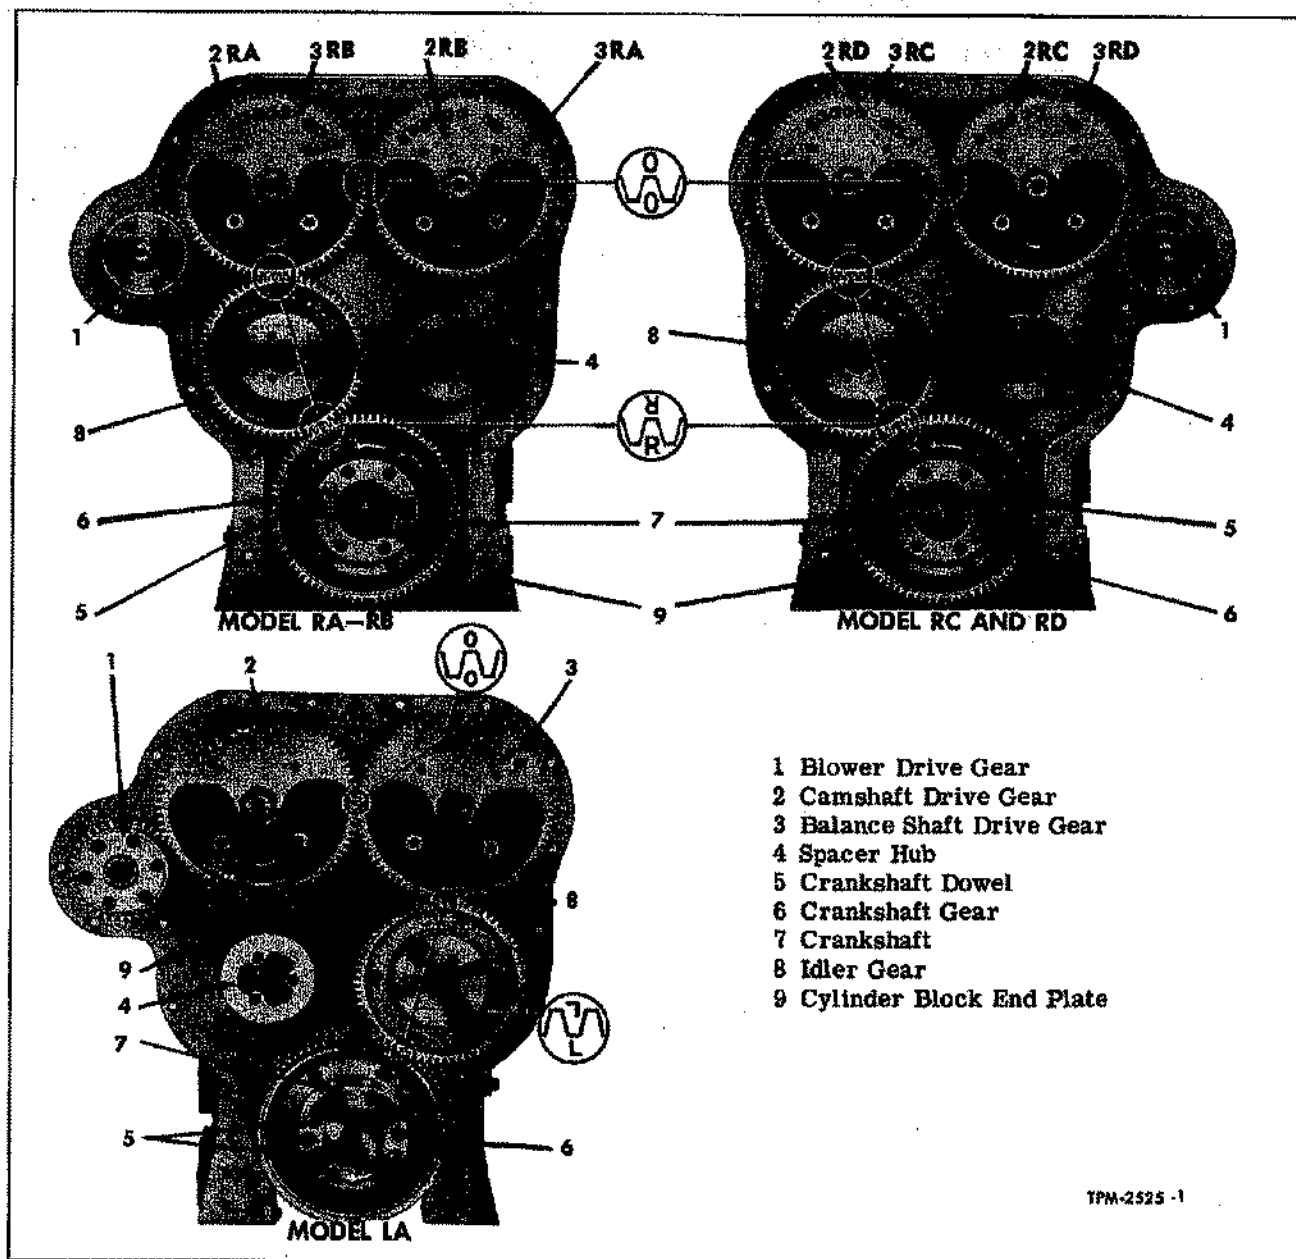

Figure 52—Gear Train and Timing Marks
A train of five helical gears, illustrated in figure 52, is located at rear of engine, and is completely enclosed between cylinder block end plate and flywheel housing or gear train cover.
7. Position crankshaft gear and either balancer shaft gear or camshaft gear so marks (fig. 52) align with those on idler gear; then roll idler gear into position. Rotate gear hub so that hollow dowel pin registers with oil hole in the end plate.